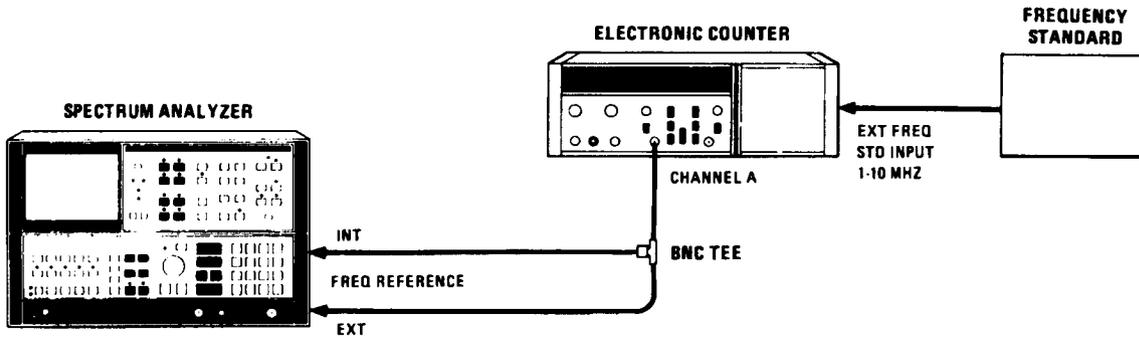

Figure 2-36. Frequency Reference Test Setup
3. Connect equipment as shown in Figure 2-36.